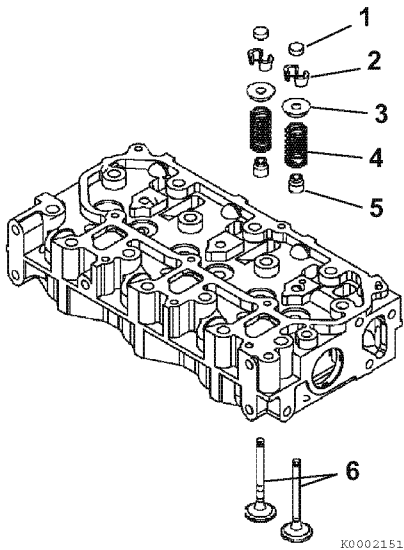

Figure 6-9
2. Remove the valve stem cap (1, **Figure 6-9**) and keep with the valve it was installed on.
4. Remove the valve keepers (2, **Figure 6-9**).
6. Remove the spring retainer (3, **Figure 6-9**) and valve spring (4, **Figure 6-9**).
8. Turn the cylinder head so the exhaust port side faces down. Remove the intake and exhaust valves (6, **Figure 6-9**) from the cylinder head.
9. Remove the valve stem seals (5, **Figure 6-9**).